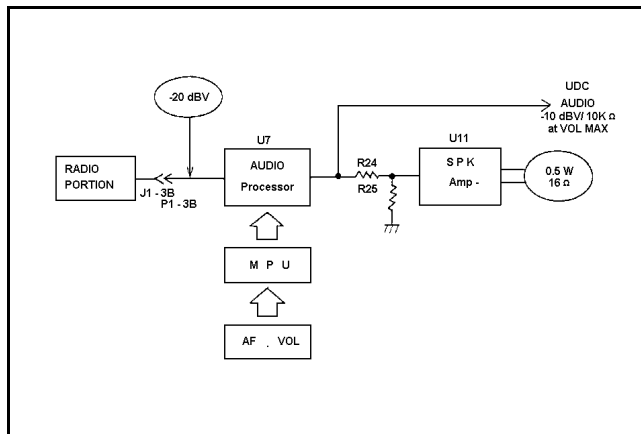

Figure 10 - Receive Audio Output
- b. Control Board : The receive RF signal comes into P1, Pin 3B. The signal is then applied through a 14dB amplifier, 300-3000Hz BPF, de-emphasis and a 44 dB volume level control. The signal is then amplified by SPK amplifier U11 to drive the speaker. Typical levels needed to obtain a 1 kHz, 0.5 watt receive rated audio output are shown in Figure 10.